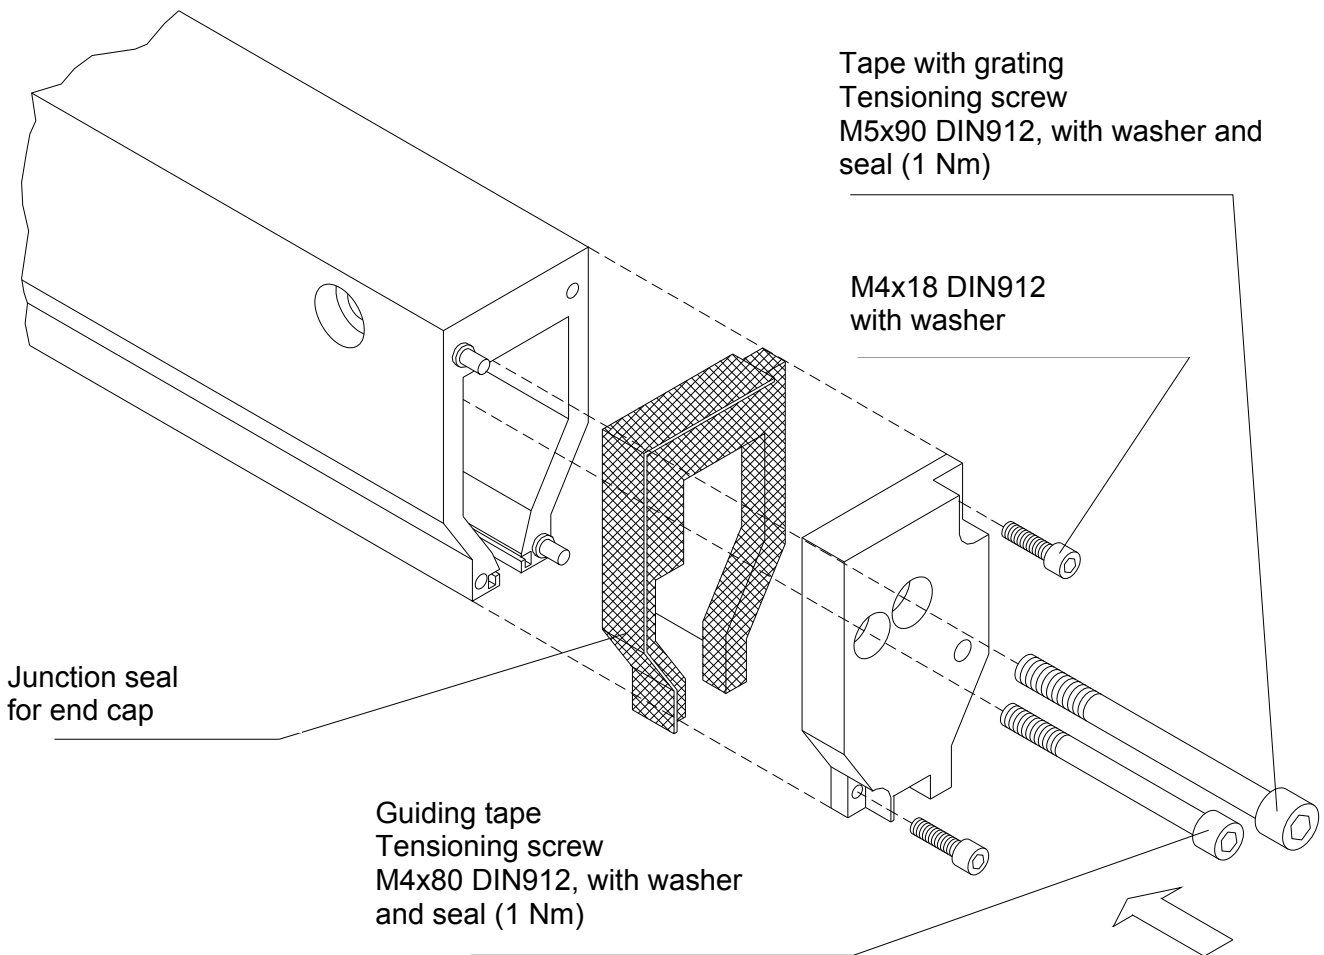

Figure 2.15
- a. After having inserted and cut the sealing lips as indicated in the previous paragraph, mount the junction seal for the end cap (see Figure 2.15).